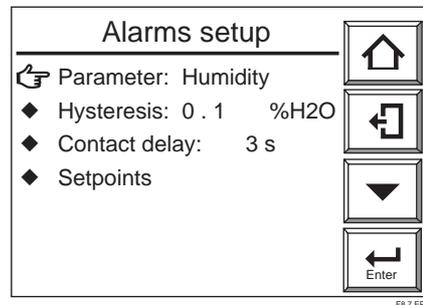

Figure 8.7 Alarms Setup Display
- (5) Select the Humidity and press the [Enter] key to confirm the humidity measurement, as Figure 8.7 shows.